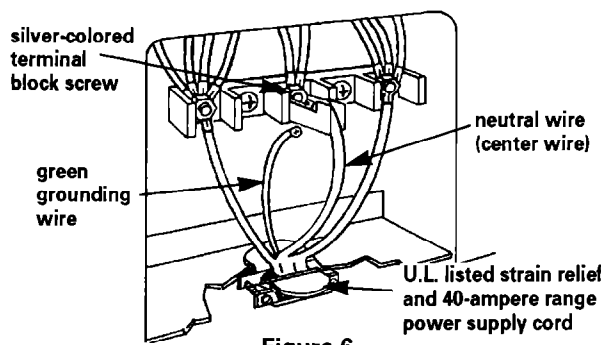

Figure 6
9. Connect the neutral (center wire) wire to the center, silver-colored terminal screw on the terminal block using the brass nuts that are attached to the terminal block cover. See Figure 6.
10. Connect the other two wires to the outer terminals on the terminal block. See Figure 6.